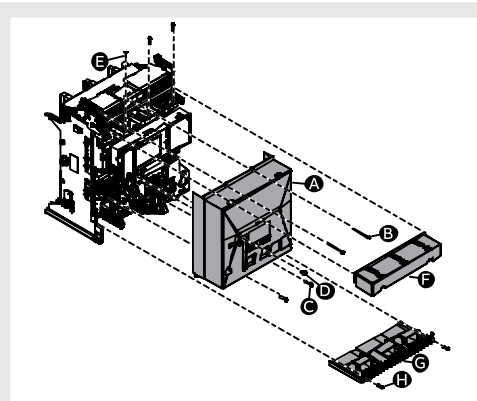

Figure 265 - Three-pole withdrawable circuit-breaker
3. With circuit-breaker in the withdrawable version (Figure 265 - Three-pole withdrawable circuit-breaker), remove the protection (F) and the terminal-cover (G) by removing the screws (H)